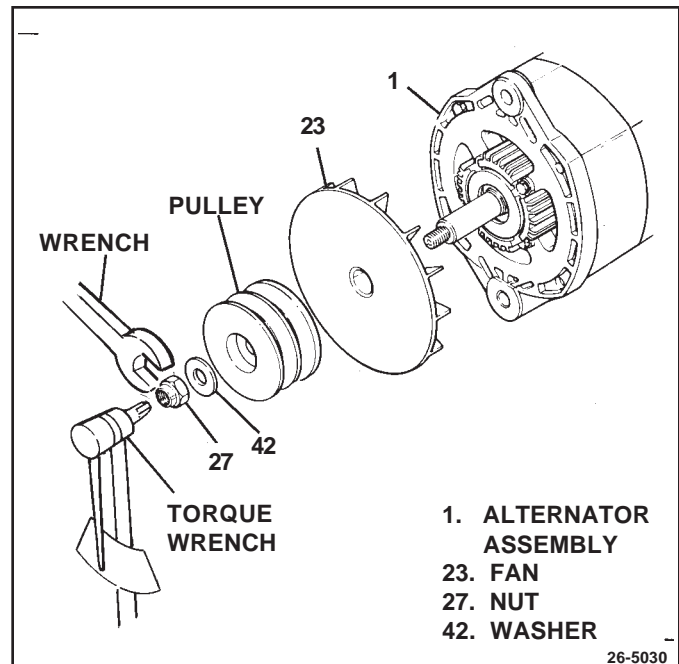

Figure 22. Alternator Disassembly
12. To replace the field coil, stator assembly, rotor assembly, or drive end or rectifier end bearings, the drive end frame assembly must be separated from the rectifier end housing. (Fig. 22) Use 5/16" hex wrench or 5/16" hex drive, in the end of the shaft, to hold while removing shaft nut (27). Remove washer (42), pulley, and fan (23) from shaft, along with baffle and slinger